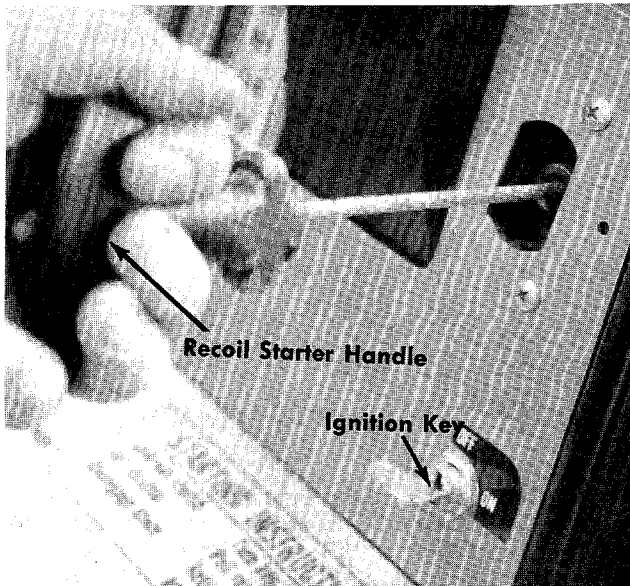

FIGURE 10. RECOIL STARTER
engine. Remove the key when the mower is not in use. Turn the key to the left to the OFF position to stop the engine. See figure 10.
The recoil starter handle is located on the right side of the dashboard. The recoil starter handle can either be pulled while seated on the rider or pulled while standing behind the rider. The ignition key must be on before the engine will start. After the engine starts, the recoil starter handle must be returned and locked into the dashboard before the blade or clutch are engaged. The engine will stop if you do not follow these instructions. See figure 10.
7. **Recoil Model.** Turn the ignition key to the ON position, twist the recoil starter handle until it is free and pull it with a quick steady motion. After the engine starts, return the recoil starter handle and twist it until it locks. See figures 10 and 14.